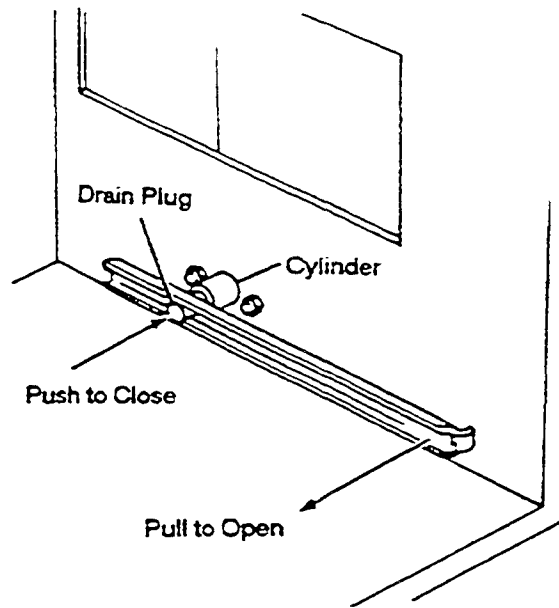

Figure 3-2. Drain Lever and Plug
The generator drain plug is located inside the steamer compartment near the lower center of the right side; see Figure 3-2. The drain plug slides in and out of a cylinder that protrudes from the side of the compartment.
To close the plug, push in on the lever as shown on Figure 3-2. The plug is fully inserted when the O-ring on the plug seats against the edge of the cylinder.
2. Drain the generator. Open the drain plug by pulling the lever to the left. The drain plug and lever are located inside the steamer compartment on the right side near the bottom. The hole in the plug comes into view when the plug opens. Do not try to pull the plug completely out of the cylinder Refer to Figure 3-2.